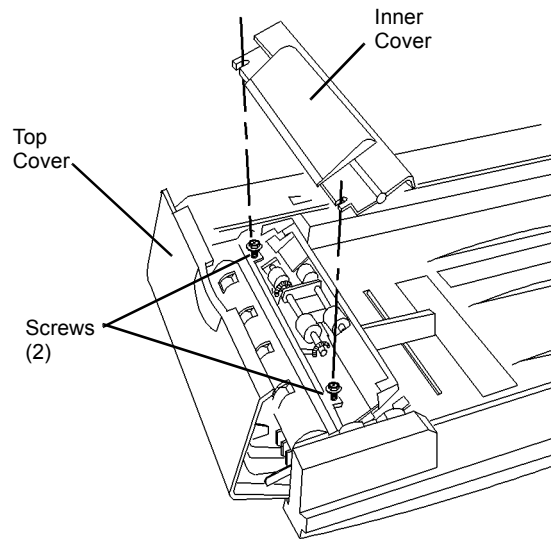

Figure 1 Removing Inner Cover
1. Open Top Cover and remove Inner Cover (Figure 1).
- b. Loosen screws (2).